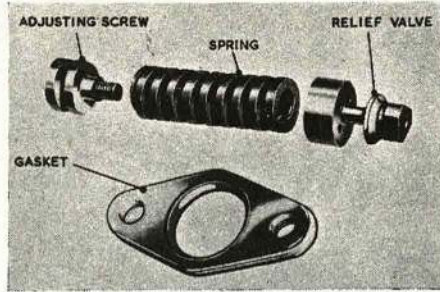

Fig. 12. SQUARE SECTION SPRING
higher range is obtained with the square-section spring (Fig. 12). The spring which is not in use is kept in the tool box.
42. Before commencing a test, the hydraulic fluid to be used and the pressure to be applied must be ascertained from the relevant aircraft Vol. 1. If the pressure exceeds 1,500 lb. per sq. in., the square-section spring (Fig. 12) will have to be fitted.